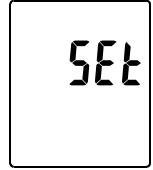

Fig.6
- (1) Turn off the unit.
- (2) Enter SETUP mode by pressing and holding  button and then press  power button to turn on the unit. "SEt" blinks on the LCD screen. (see Fig.6)
- (3) Press CLOCK  button to set clock.
- (6) Select “Launch the CP210x VCP Driver Installer” option, then click Finish. (see Fig.6)